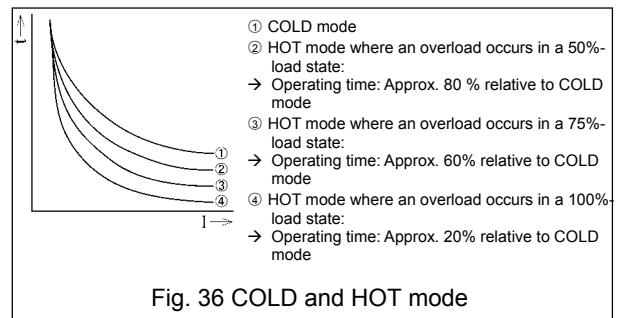

Fig. 36 COLD and HOT mode
④ NON setting disables protective functions. If the short time delay trip function and the instantaneous trip (or MCR) function are both attempted to be set to NON, however, the fail-safe operates so that:
⑤ A pickup current means the threshold by which the OCR determines whether or not an overcurrent occurs. When the current flowing through the OCR exceeds the pickup current setting provided that $[I_n] \times 1.05 < \text{pickup current setting} \leq [I_n] \times 1.2$, the OCR starts counting the time for tripping. Once the current flowing through the OCR reduces to less than the pickup current setting, time count is reset.
⑥ In HOT mode, the OCR is actuated in shorter time than in COLD mode when an overload occurs after a certain degree of load is maintained for a certain time of period. The OCR is factory set to COLD mode. See 5-3-6 for how to set the OCR to HOT mode. If the control power is lost, load data stored in HOT mode is cleared. Fig. 36 shows the operating time in COLD and HOT modes.
⑦ The short time delay trip function has precedence over the long time delay trip function. The OCR operates at the short time delay trip timing even in those current ranges in which the long time delay trip time setting is shorter than the short time delay time setting.